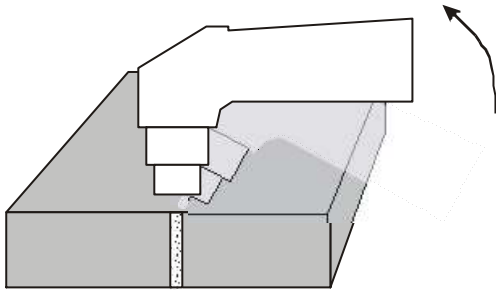

Fig. 7
6. We recommend starting cutting at the edge of the material. If needed to start from the centre of the material, or to cut hole into the material, slightly tilt the torch head and gradually it straighten into a vertical position so the spraying material would not damage the cutting tip (see Figure 7). This workflow must always be followed, if the thickness of material is above 3 mm.